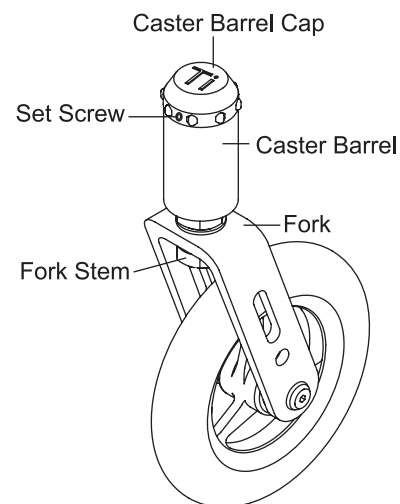

Figure 83
2. Loosen the set screw in the caster barrel cap. See Figure 83.